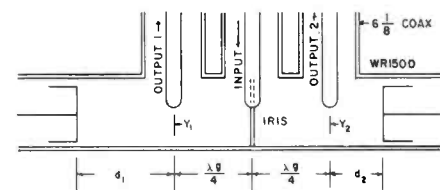

Fig. 16—Power-dividing circuit.
**C. Power-Dividing Tee**—The knowledge of the magnitude of the junction effect and the parameters required to cancel it (that is, x, d, and the size of the iris) permit the power-dividing circuit to be synthesized. See Fig. 16.
The construction in Fig. 10 may be used to find the  $Y_1$  and  $Y_2$  shown in Fig. 16 for any desired ratio of power in the output arms. The value of  $Y_1$  or  $Y_2$  is sufficient to determine  $d_1$  or  $d_2$ . For instance,